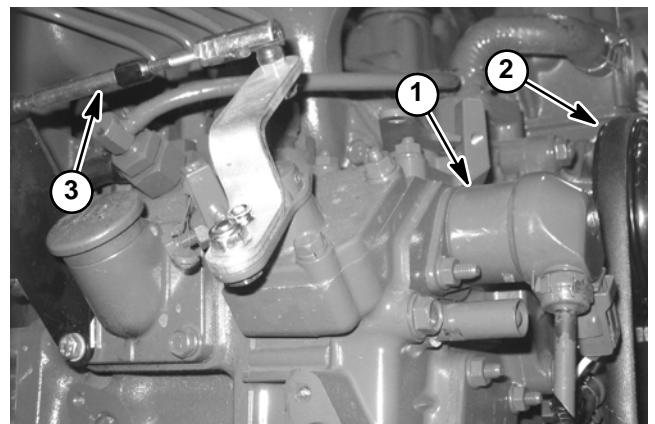

Figure 12
- C. The engine run solenoid (Fig. 12).